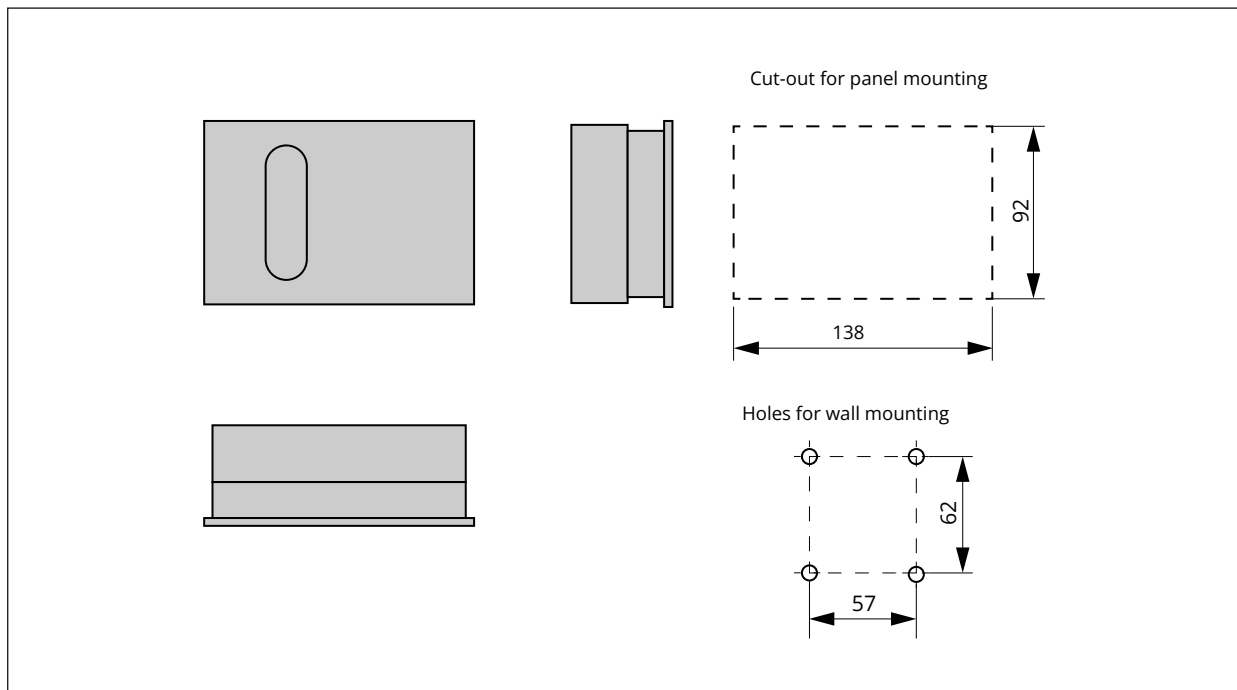

Fig. 4: Mounting the gateway
3. If necessary, drill holes with the specified dimensions in the designated places (see Fig. 4). Fasten the base with four screws.